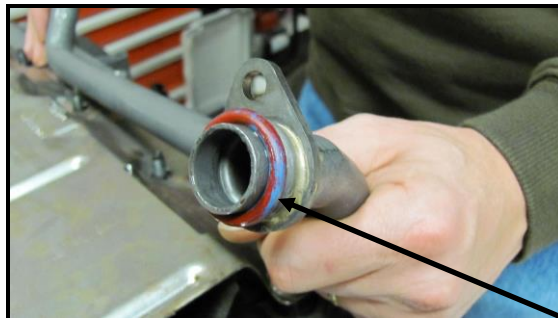

Figure 3
2. Install the supplied O-ring onto the oil pump pickup screen assembly and lubricate with clean engine oil (**Figure 3**).